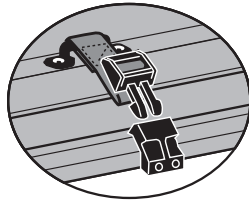

Figure 18
- (c) Unclip the retention straps from the cab panel and carefully fold the panel forward (Fig. 18)